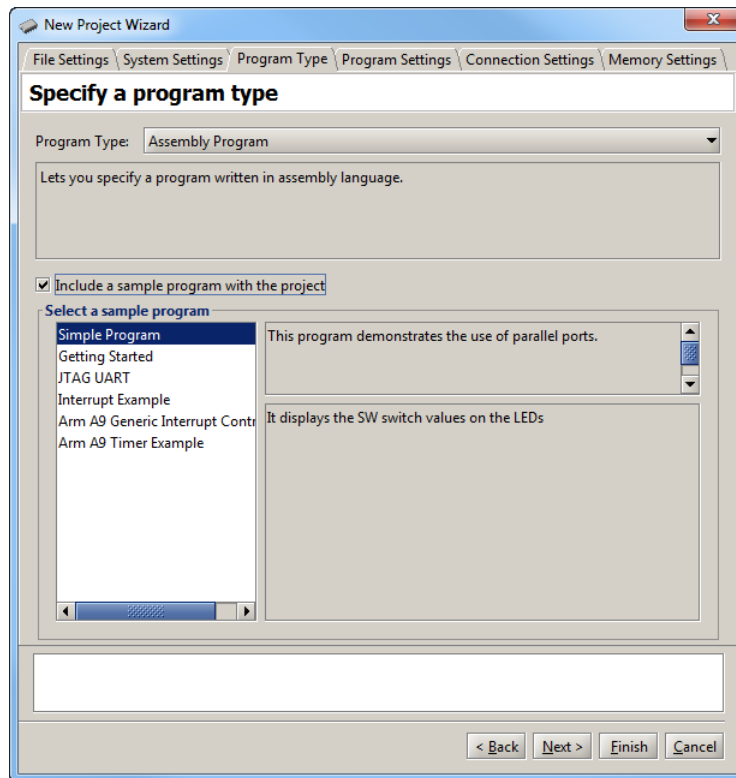

Figure 7. Selecting a program type and sample program.
3. Click **Next** to advance to the screen in Figure 7, which is used to specify the program source files that are associated with the project. The **Program Type** drop-down list can be used to select one of the following program types:
For our example, set the program type to **Assembly Program**. When the DE1-SoC computer has been selected for the project, it is possible to click on the selection **Include a sample program with the project**. As illustrated in Figure 7, several sample assembly-language programs are available for this prebuilt computer. For our tutorial select the program named *simple_program*. This is a very simple program which continuously reads the state of the slider switches on the DE1-Soc board and displays their state on the red LEDs. The source code for the program is: